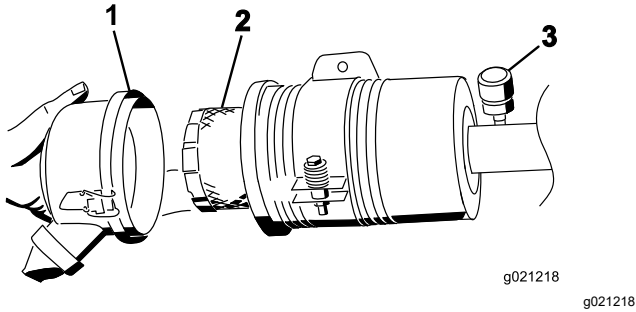

Figure 82
5. Remove and replace the filter (Figure 82).